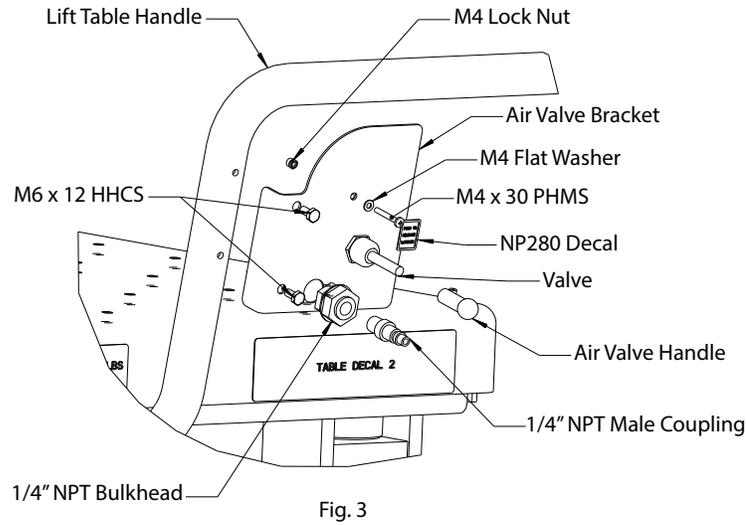

Fig. 3
- 4.) Attach Valve bracket using (2) M10 x 12 HHSC. Then attach valve to valve bracket using the handle nut and (1) M4 x 30 PHMS, (1) M4 flat washer & (1) M4 lock nut. Attach 1/4NPT bulkhead to valve bracket and 1/4NPT male coupler to bulkhead just attached. Attach the valve handle to the valve, and lastly attach (1) NP280 to valve bracket, slightly above and to the right of the valve. Fig. 3.